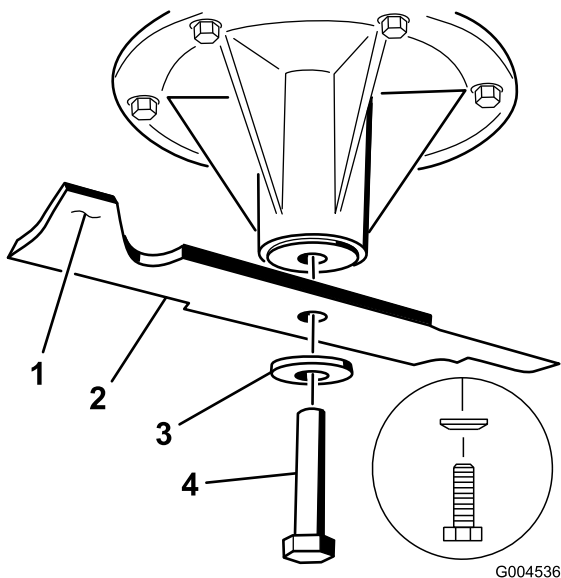

Figure 78
2. Remove the blade bolt, the curved washer, and the blade from the spindle shaft (Figure 78).
3. If the blade is not balanced, file some metal off the end of the sail area only (Figure 78).